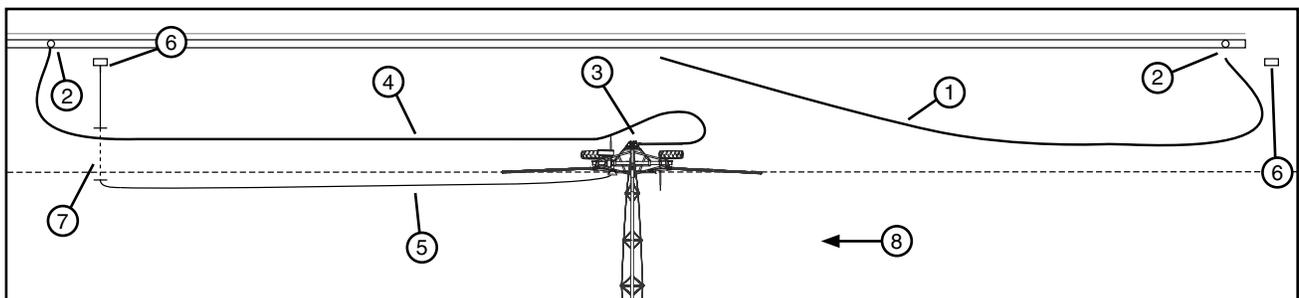

Figure 50-2 1. First Hose
19. With second hose connected to shut off valve, position second hose, unlatch and disconnect first hose from swivel inlet. Positioning the hose to drain away from the cart path. See Figure 50-2.
- Position the electric cord as shown. When applicable, prevent interference between the electric cord and the hose by burying the electric cord in the ground as shown. Allowing for the hose to travel over the buried portion of the cord. See Figure 50-2.